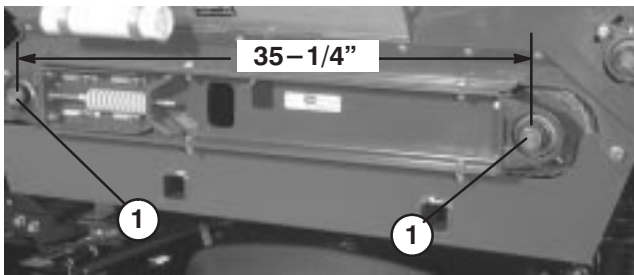

Figure 10
3. Check to insure that the center distance between conveyor belt roller shafts (Fig. 10), on each side of machine, are equal distance (approximately 35–1/4").